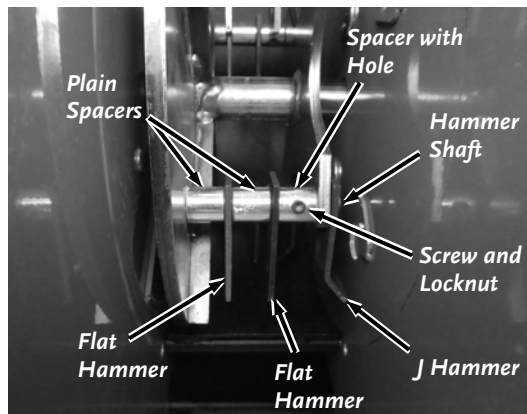
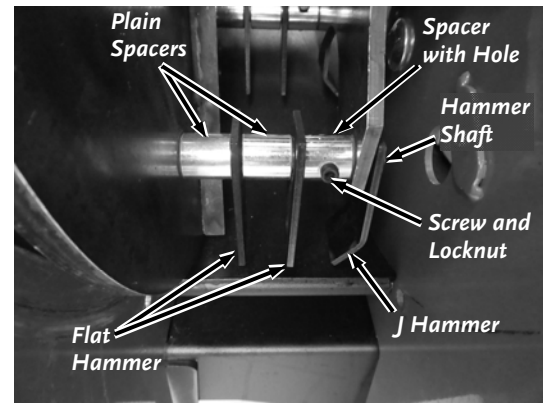

Figure 34
Figure 35
4. Align one of the Hammer Shafts with the Access Door opening (**Figure 34**). Carefully note the orientation of each Hammer on the Hammer Shaft you are working on.
7. Reinstall the parts, but with the orientation of the Hammers flipped to a clean cutting edge. If your Hammer Shaft assembly looked like **Figure 34** before then it should look like **Figure 35** after. Or vice versa.